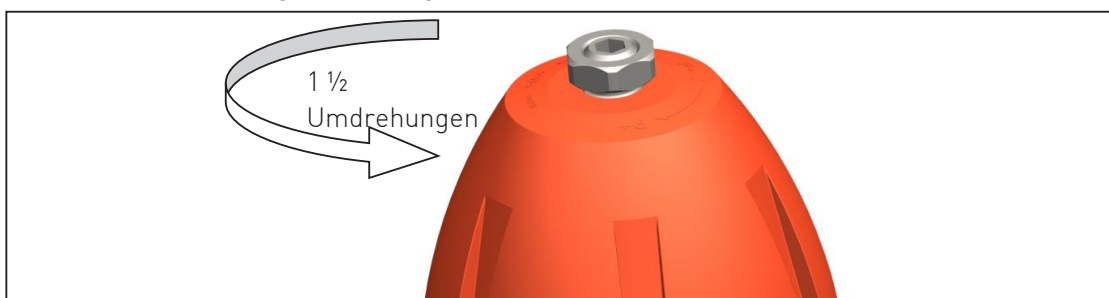

Fig. 3
- ▶ Loosen the locking nut, see Fig. 3